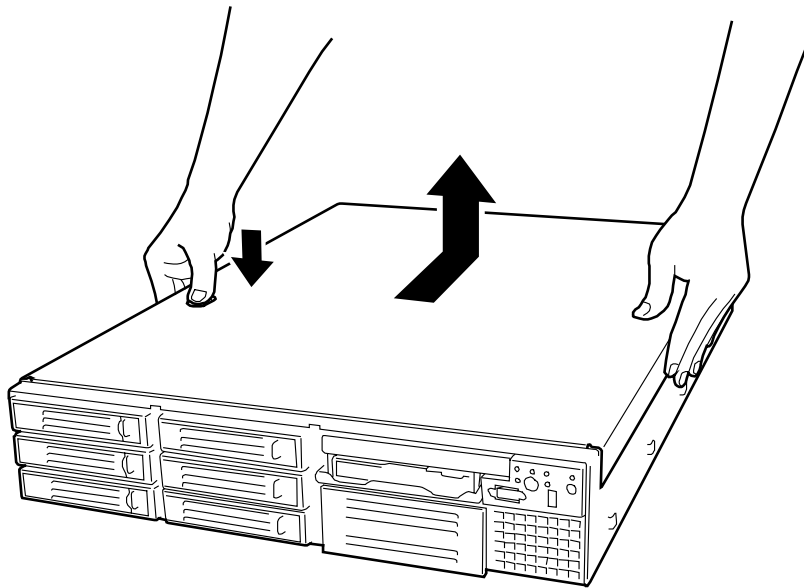

Figure 4-3. Releasing the Top Cover
3. Slide the top cover toward the rear of the server while pressing the lock button on the cover. See Figure 4-3.